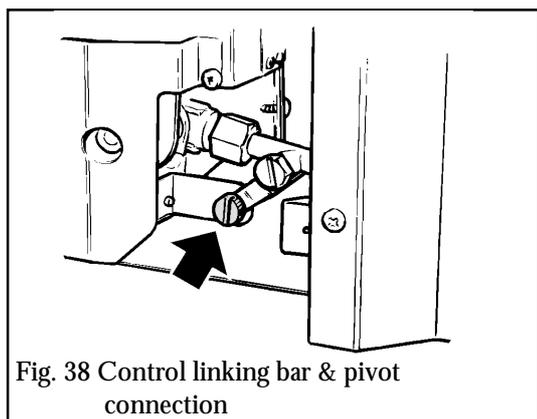

Fig. 38 Control linking bar & pivot connection
13.3.3 Disconnect the control linking bar from the control pivot bracket by removing the knurled screw (See fig. 38).
13.3.6.5 Align the hole near the bottom of the control linking bar with that in the control pivot unit. Join them with the knurled shouldered screw (See figure 38).